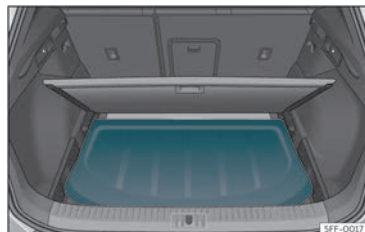

Fig. 112 In the luggage compartment: fitting the rear shelf.
- Place the rear shelf in the corresponding housing»» Fig. 112.